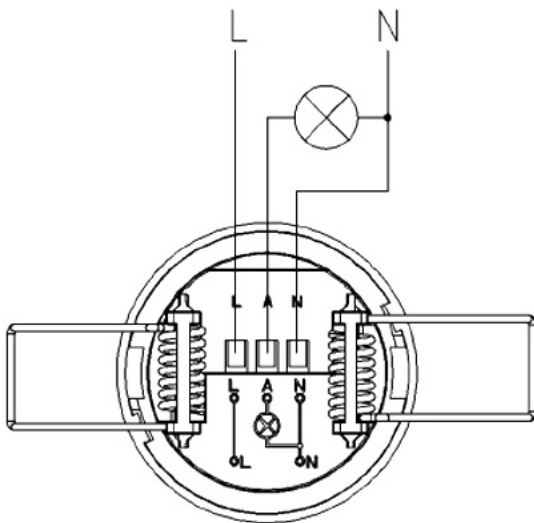

FIGURE 2
- 5) Connect the cable to the terminal block mounted on the back of the sensor as per FIGURE 2.